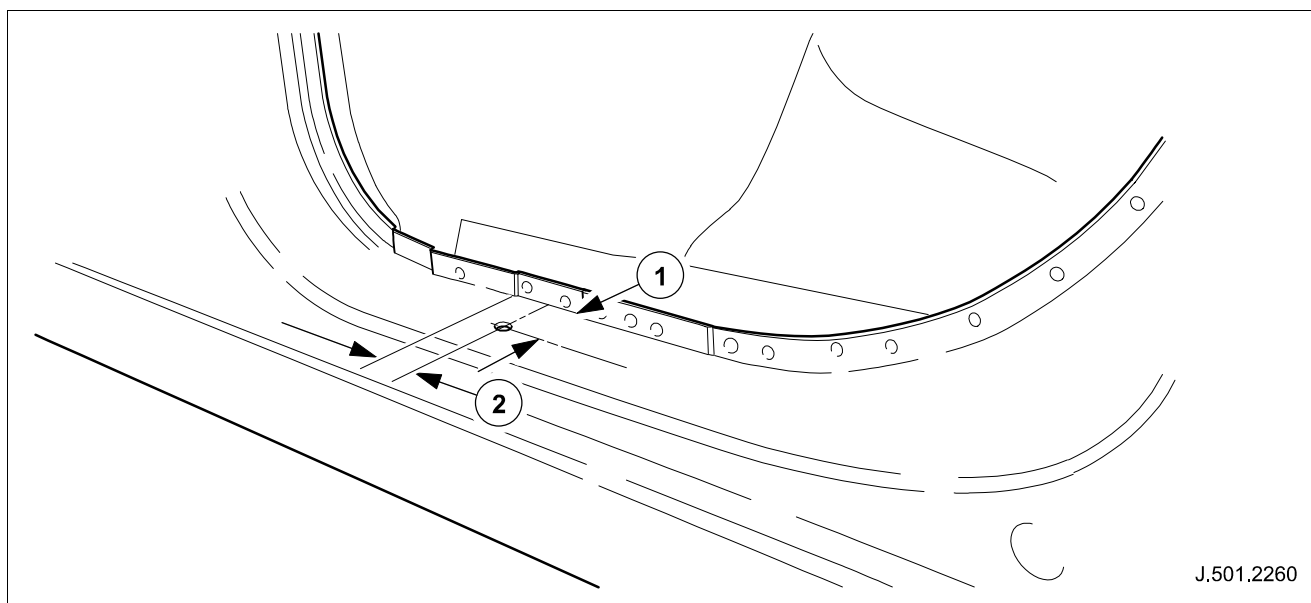

Fig. 1
- 5 Measure from the third depression in the sill aperture flange 32.5mm from the flange face across the sill, and draw a line on the masking tape. (See item 1, Fig. 1)
- 6 Measure from the third depression in the sill aperture flange 30mm to the rear of the car and draw a line on the masking tape to cross the line drawn in step 5. (See item 2, Fig. 1)